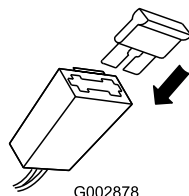

Figure 27
2. Insert the fuse into the fuse holder (Figure 27).